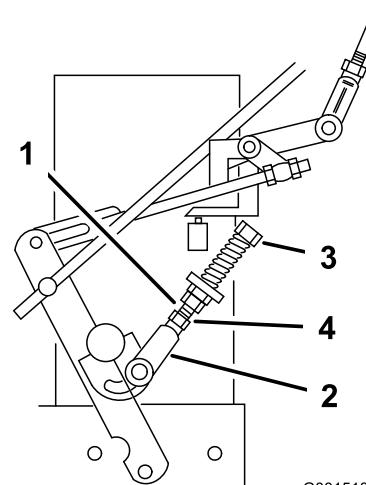

Figure 31
9. If the wheel turns while holding the drive lever in the NEUTRAL position, the neutral-control linkages need to be adjusted (Figure 31). If the wheel stops, proceed to step 12.
10. Loosen the nut against the neutral-control linkage yoke (Figure 31).
11. Adjust the neutral-control linkage until the respective drive wheel stops while the drive lever is pulled against the neutral spring (NEUTRAL position) as shown in Figure 31.
12. Turn the adjusting bolt approximately 1/4 turn clockwise if the wheel is turning in reverse. Turn the bolt approximately 1/4 turn counterclockwise if the wheel is turning forward (Figure 31).